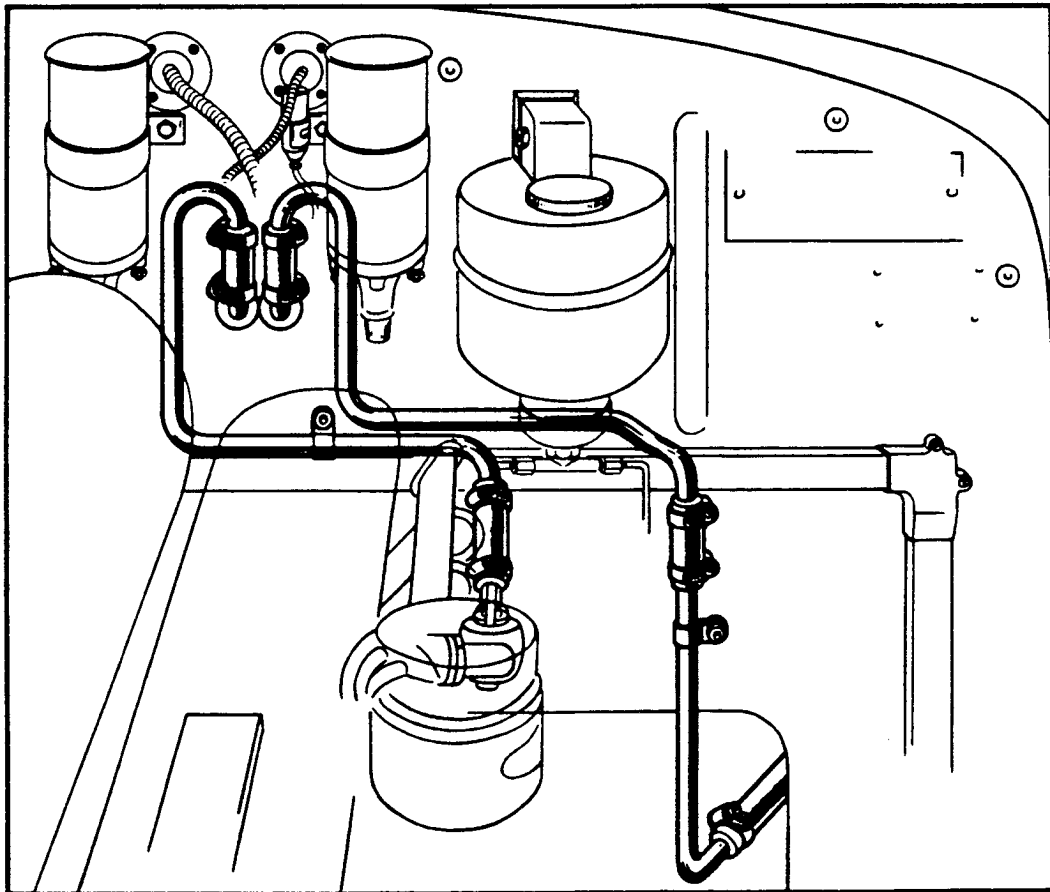

FIG. 4. INSTALLATION OF THE WATER CONNECTIONS.
1. Install the water connections as shown in Fig. 4.